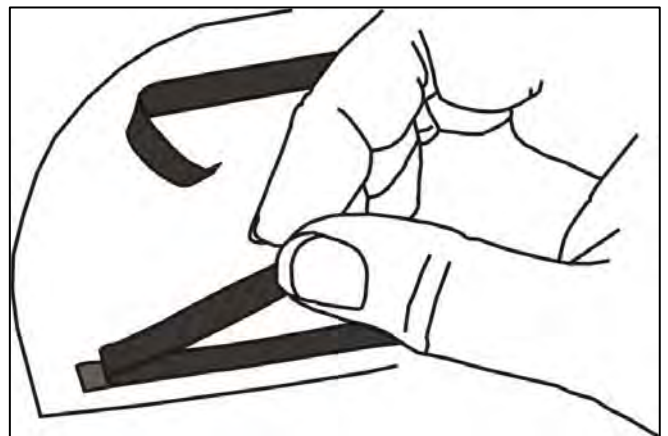

Fig. 3-1
- (a) Remove the 3M adhesive liners using the pull tabs. Be sure not to touch the adhesive during installation. (Fig. 3-1)